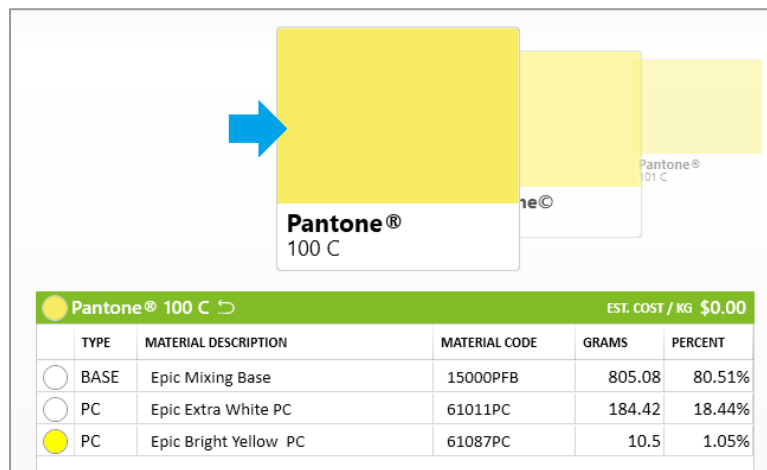

Figure 16 Select Formula from Formula Picker
- Select the formula from the Formula Picker that you would like to print. (Figure 16)